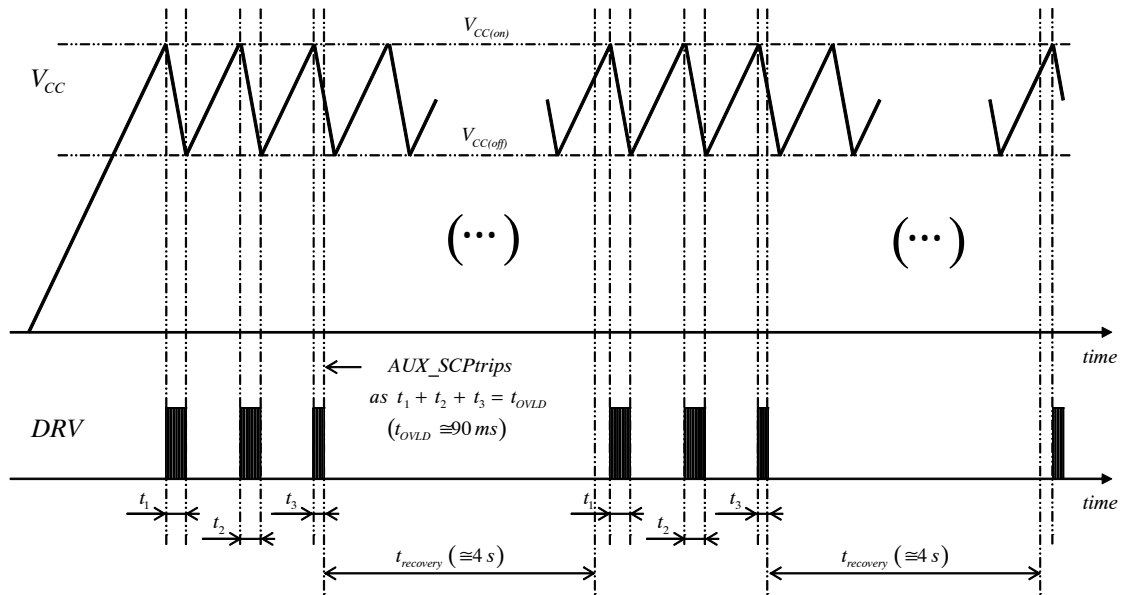

Figure 60. Start-up Sequence in a Load Short-circuit Situation (auto-recovery versions)
- If the load is shorted, the circuit will operate in hiccup mode with V_{CC} oscillating between $V_{CC(off)}$ and $V_{CC(on)}$ until the AUX_SCP protection trips (AUX_SCP is triggered if the ZCD pin voltage does not exceed 1 V within a 90-ms operation period of time thus indicating a short to ground of the ZCD pin or an excessive load preventing the output voltage from rising). The NCL30186A and NCL3006C latch off in this case. With the B and D versions, the AUX_SCP protection forces the 4-s auto-recovery delay to reduce the operation duty-ratio. Figure 60 illustrates a start-up sequence with the output shorted to ground, in this second case.